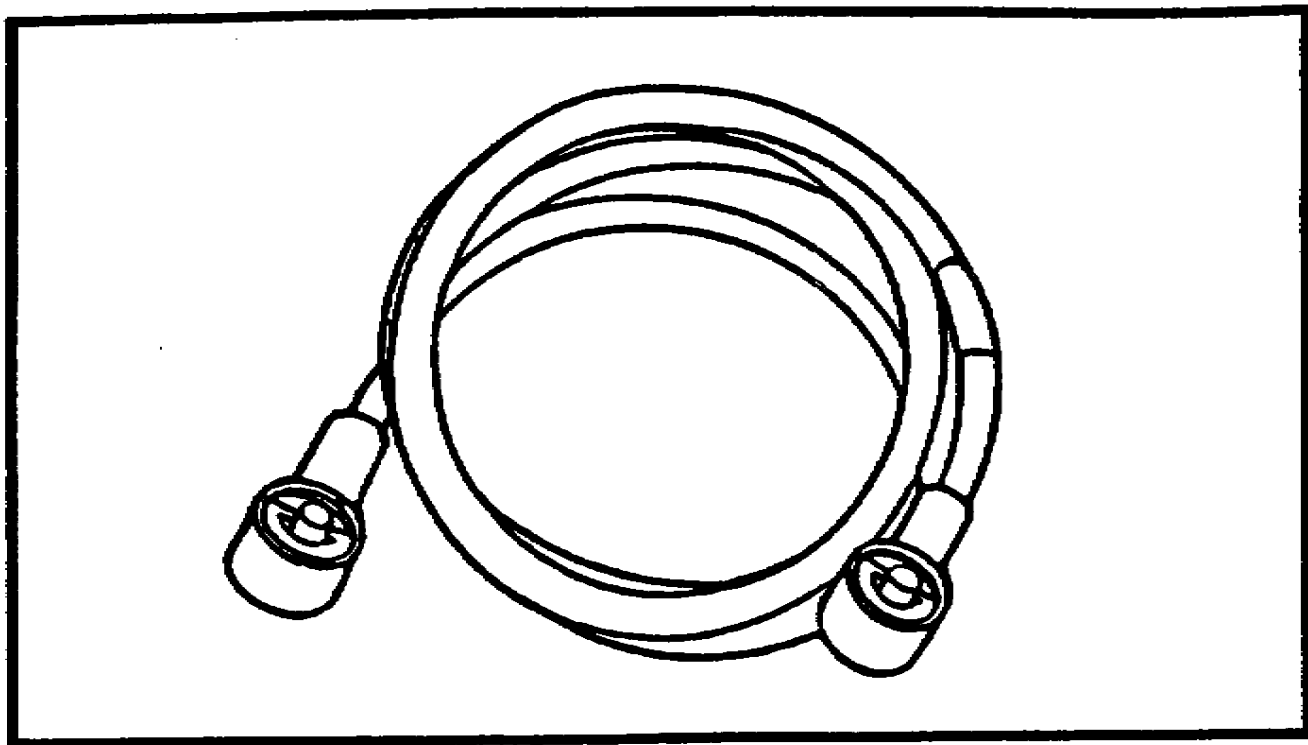

Figure 5. Cable assembly CX-4723/VRC.
- i. See Figure 5. Cable assembly CX-4723/VRC provides a connection between the AM-1780/VRC and each crew member's C-2298/VRC.